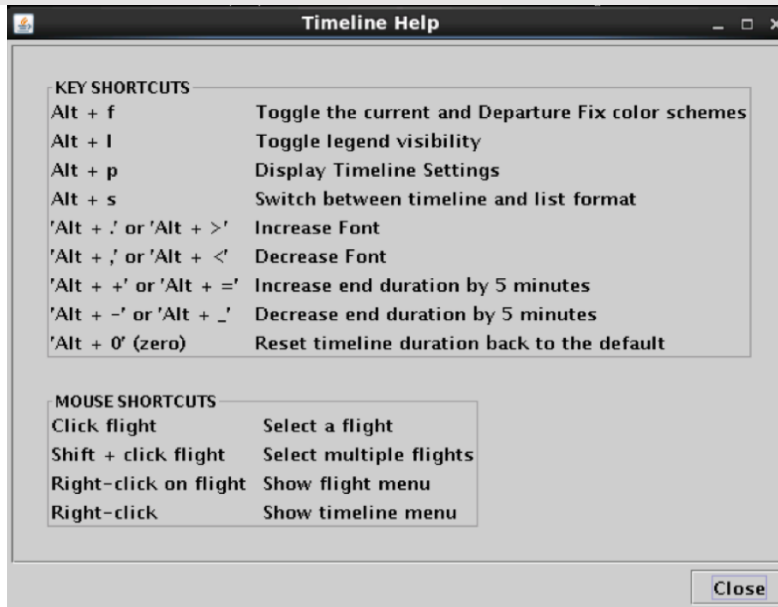

Figure 35. Timeline Help window.
**Step 2:** Click on “Timeline Help.” A window appears with a list of keyboard and mouse shortcuts for various Timeline functions (Figure 35).